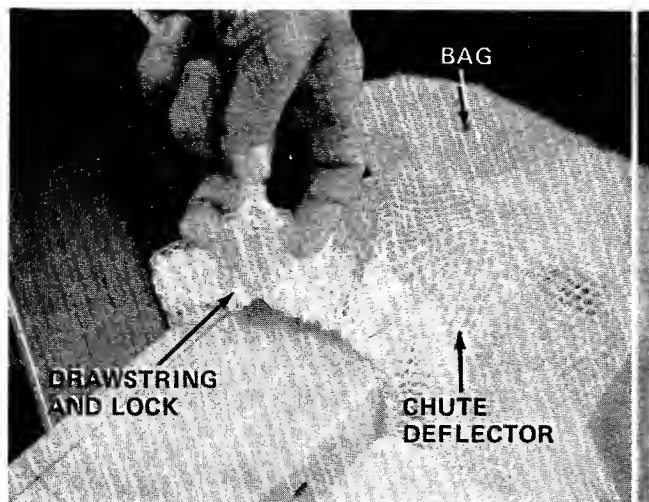

FIGURE 6
- ← 7. Place the bag over the chute deflector. Pull on the drawstring and lock. See figure 6.